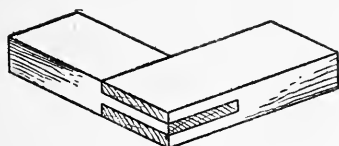

Fig. 1.—“Open” Mortise-and-tenon Joint
**An "Open" Mortise.**—I cannot hope to show you in this chapter how to make all the various kinds of mortise-and-tenon joints. There are actually scores of varieties, and I can afford space to deal with only two or three of the commonest but, at the same time, most important kinds. A mortise-and-tenon joint connecting the ends of two pieces of framework (*see* Fig. 1) is known as an open joint, the end grain of both of the pieces being visible, as shown. The mortise itself is open, and does not constitute a box, as it does in the closed type, which I shall take as my second example.